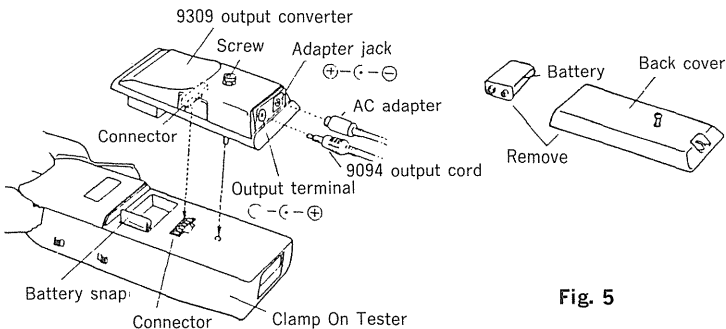

Fig. 5
- ⊙Remove the back cover and battery from the tester as shown in Figure 5. Position the battery snap at the side as shown in the figure.